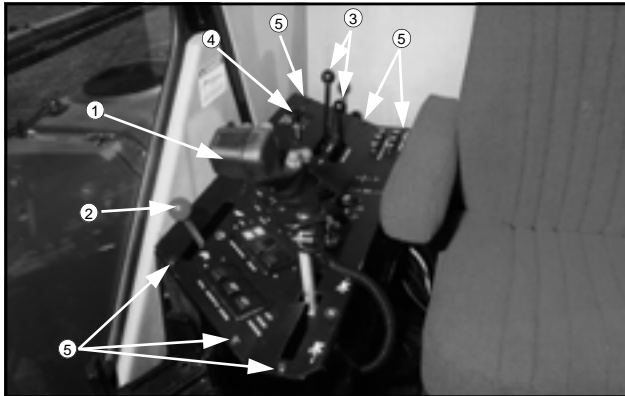

FIG 8.36
To access the circuit breakers remove the hydrostatic handle (fig. 8.36, item 1), engine throttle knob (fig. 8.36, item 2), VFC lever knobs (fig. 8.36, item 3), four wheel drive knob (fig. 8.36, item 4), and panel screws (fig. 8.36, item 5).